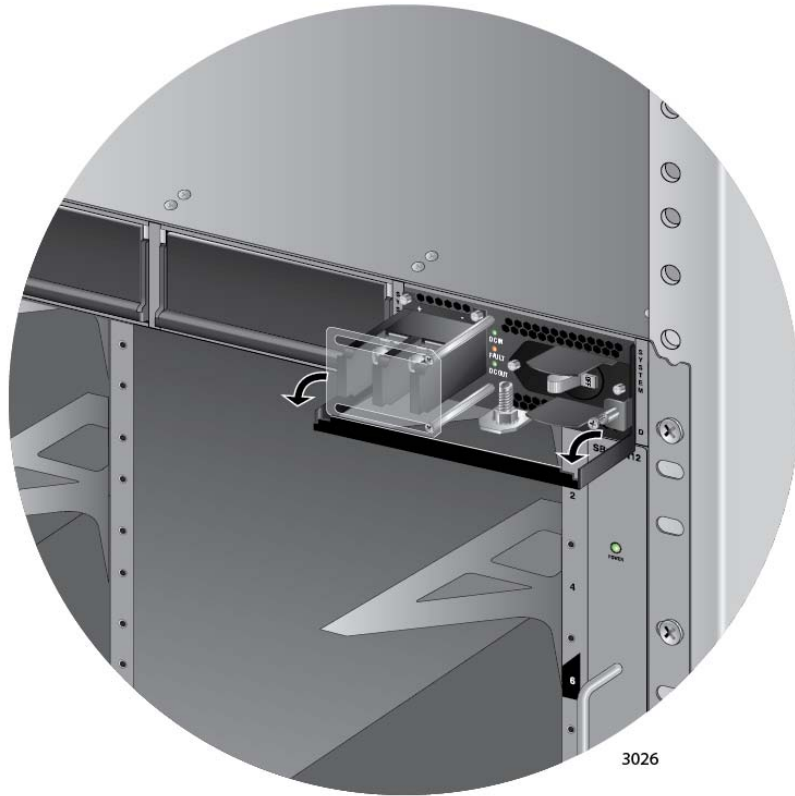

Figure 61. Locking the Handle on the AT-SBxPWRSYS1 DC System Power Supply
8. Lower the locking handle of the power supply module to secure the module in the slot, as shown in Figure 61.